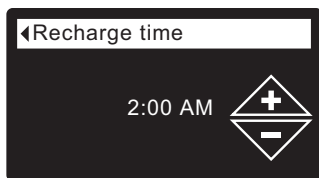

FIG. 48
5. Press the SELECT (O) button to display the Recharge time screen (See Figure 48).